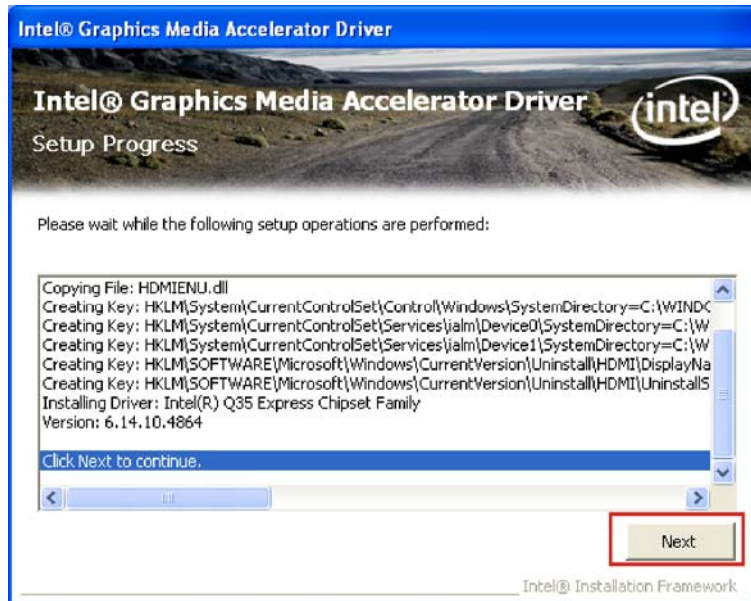

Figure 6-13: GMA Driver Installation Complete
Step 12: The driver installation progress is shown (Figure 6-13).